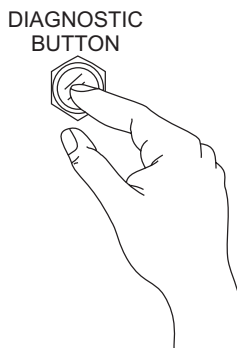

Figure 56. Diagnostic Button
5. Push and hold the diagnostic button (Figure 56) to identify the fault.